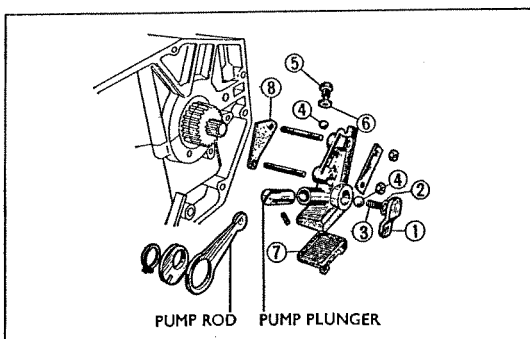

Fig. 3.71 Pump parts
7. The following are included in the pump. (Refer to Fig. 3.71)